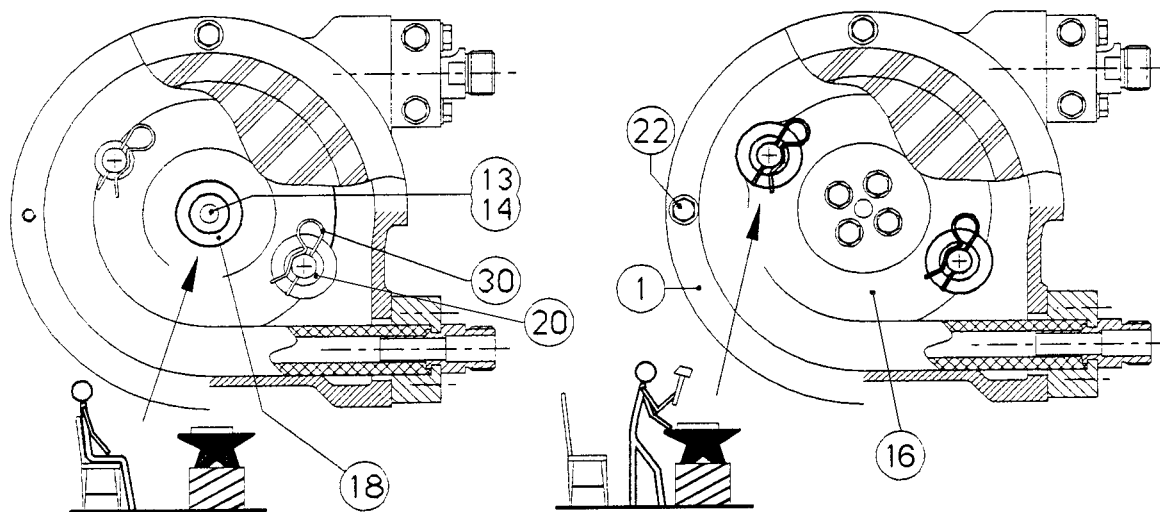

Figure 4.10
4.5 Long-Term Shut-Down (See Figure 4.10)